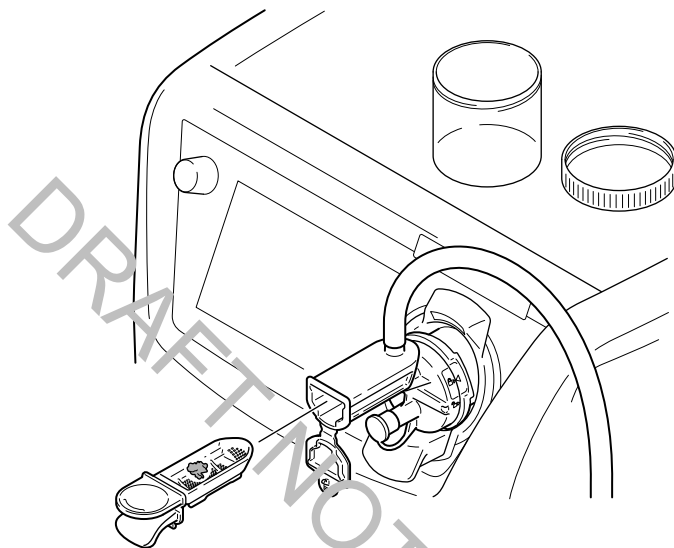

Figure 29 – Remove Specimen Collection Tray
8. After a specimen is collected and transfer of the specimen is appropriate, remove the collection tray from the manifold by pinching the tabs of the tray together and pulling the collection tray away from the manifold (Figure 29).